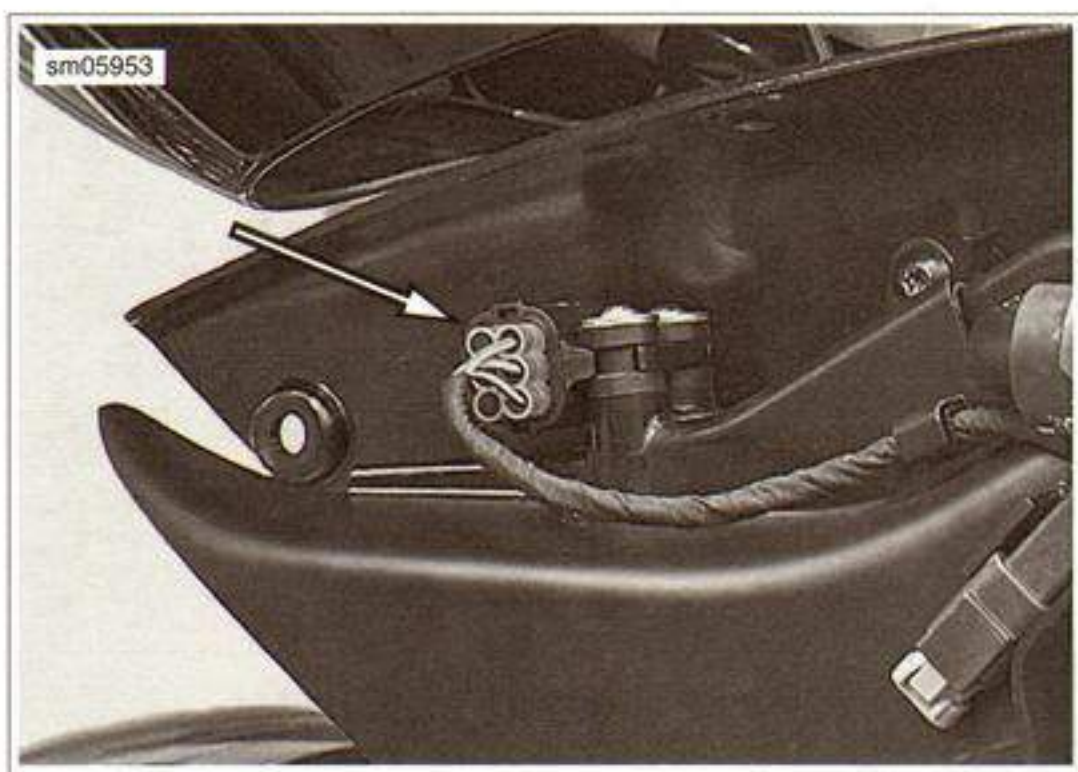

Figure 4-9. Bank Angle Sensor
2. See Figure 4-9. Remove the fasteners securing the BAS.